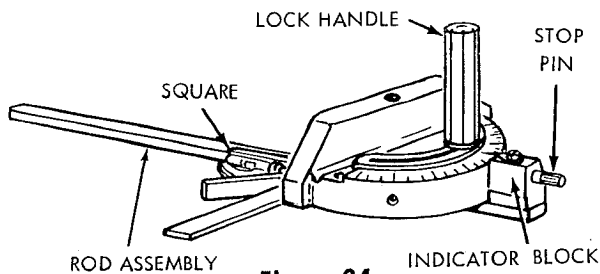

Figure 34
(1) Loosen the lock handle and push the stop pin firmly into the middle detent ("0" position on the scale.) The stop pin will be seated more effectively if it is rotated slightly as it is being "pushed" into the detent. Tighten the lock handle. (See figure 34.)